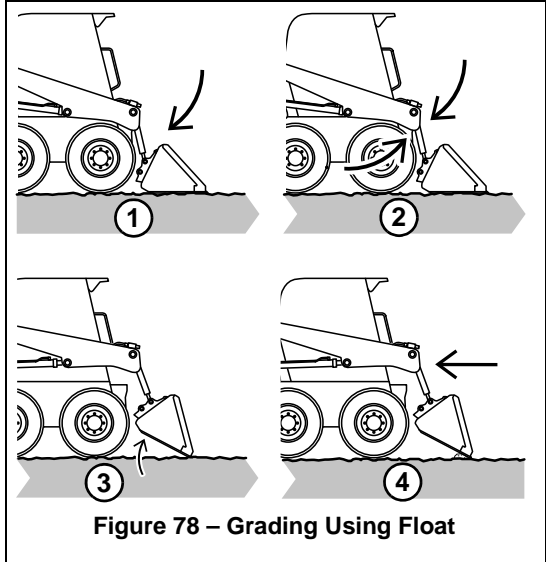

Figure 78 – Grading Using Float
1. (Figure 78) Lower the bucket to the ground.